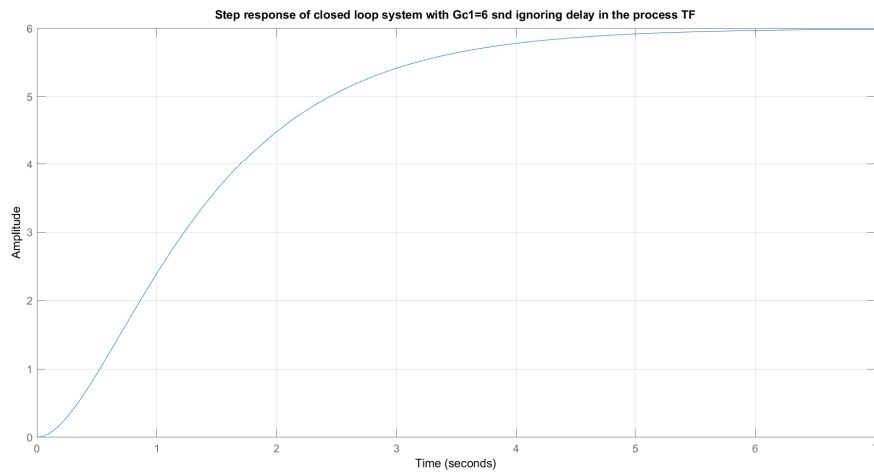

Figure 8: Step response part (a)
- Step response of the closed loop system with  $G_{c1}$  obtained in part (a), and ignoring the process delay (Figure: 8)